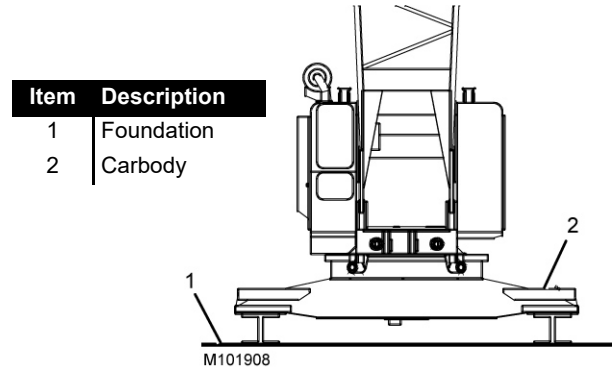

Figure 2-7. Carbody-Mounted Crane
2. Crane rotating bed mounted on a carbody (crawlers removed) which is securely fastened to the foundation (Figure 2-7).